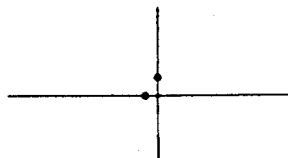

Fig. 4.11. L853 adjustment – bright spots superimposed
- Adjust coil L853 and preset potentiometer VR851 until the two bright spots are superimposed near the centre of the cross. See Fig. 4.11.